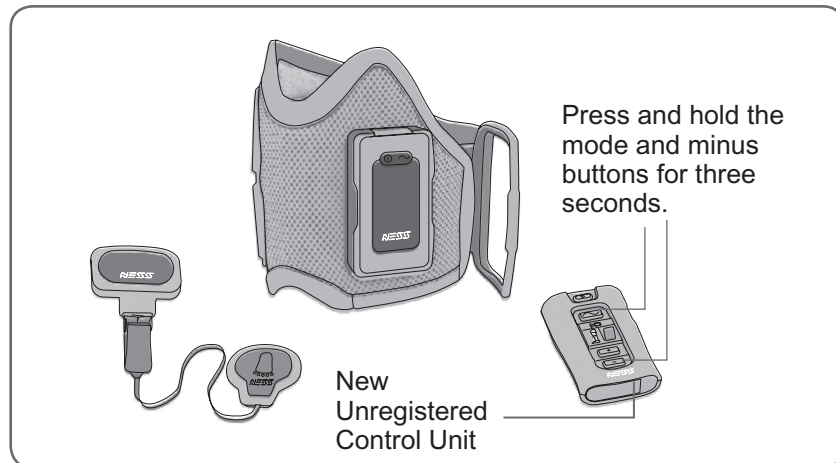

Figure 69: Registering a new Control Unit.
2. Simultaneously press and hold for three seconds the  mode and  minus buttons. See Figure 69. The Control Unit will beep when registration begins.